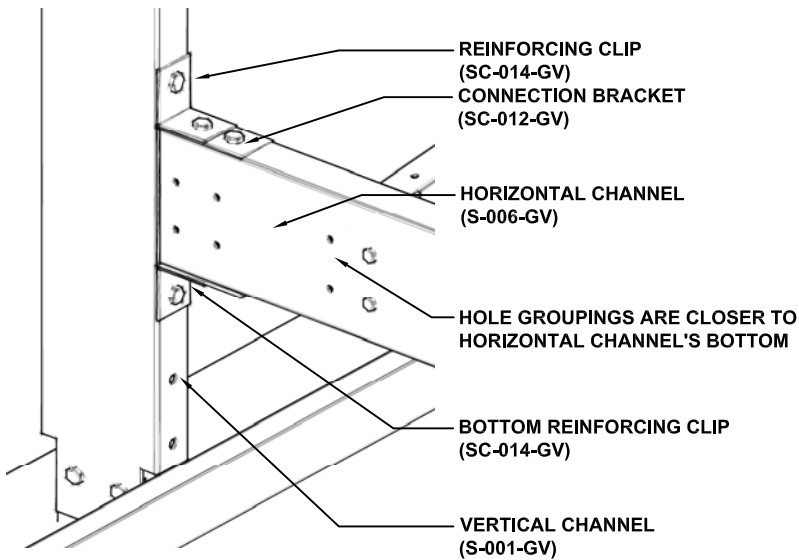
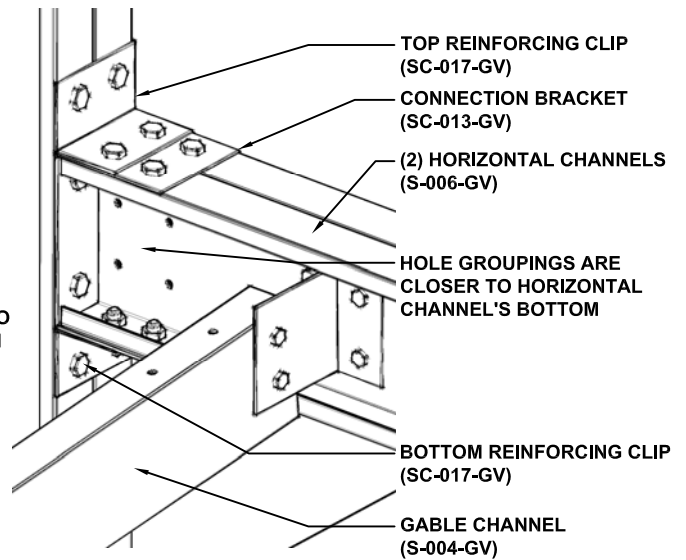

FIGURE 8 - EXTERIOR SUPPORT
FIGURE 9 - INTERIOR SUPPORT
- b. Horizontal Channel (S-006-GV) - **The bottom of the Horizontal Channel is identified by the $\frac{1}{4}$ " holes in the face of the member. These holes are closer to the bottom than the top.** The open part of the "C" should face to the center of the canopy as shown on the cover of the instructions. Level and bolt the Horizontal Channel to the Connection Bracket and Reinforcing Clip as shown in **Figure 8 & Figure 9** using $\frac{3}{8}$ " bolt/nuts.